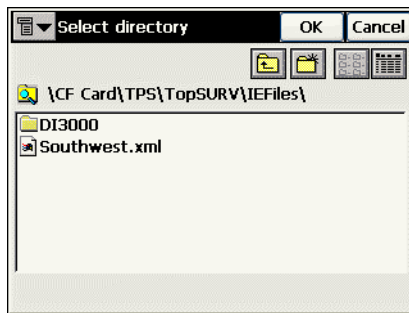

Figure 5-12. File Import Directory
3. Choose the location for the imported file, then tap **Finish** (Figure 5-12).
6. Tap **Import** on the *File Import Directory* screen (Figure 5-12).